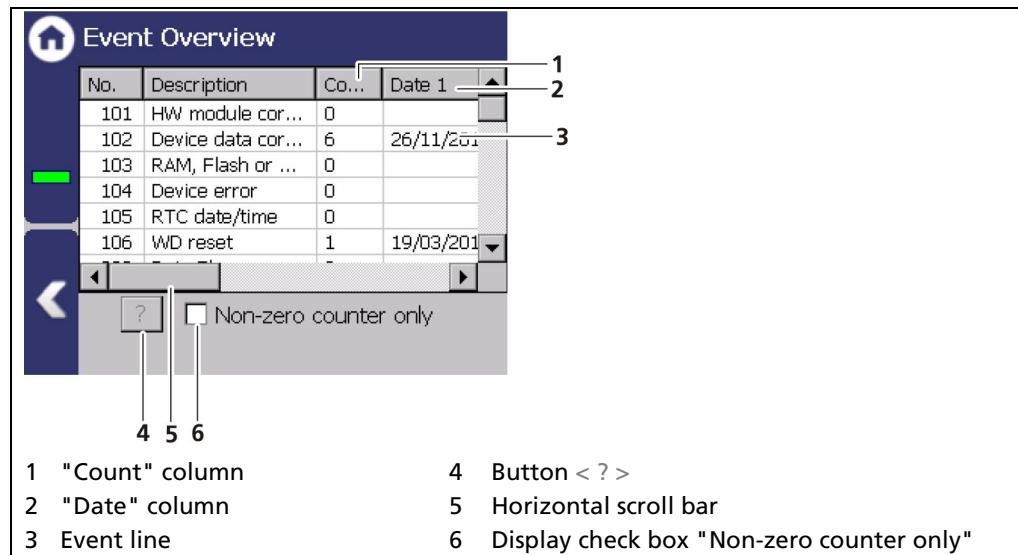

Fig. 71 Event Overview
1. Click on a line in the list (Fig. 71, item 3).
2. Click on <?> (Fig. 71, item 4).
4. Slide the bar of the horizontal scroll bar (Fig. 71, item 5) to the right to see at what times (date, time) the event occurred.